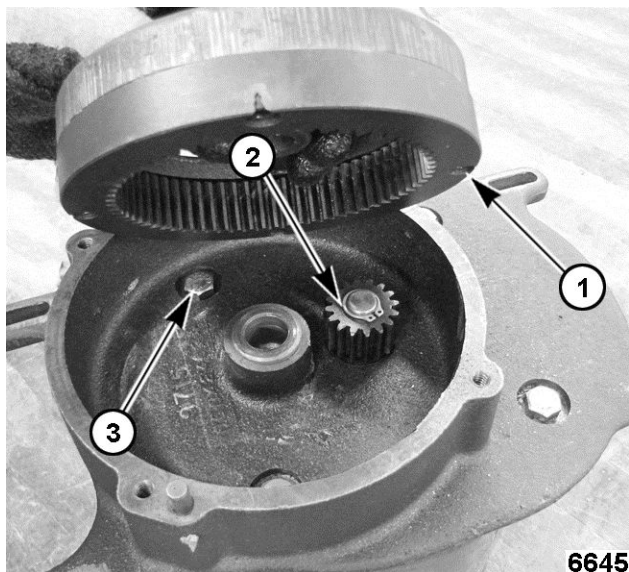

Fig. 150
- A. Remove the socket head screws (1, Fig. 150) and remove the hub from the internal gear.
6. Remove the motor pinion retaining ring, gear and key (2, Fig. 150).
8. Remove the motor mounting bolts (3, Fig. 150) and lock washers.